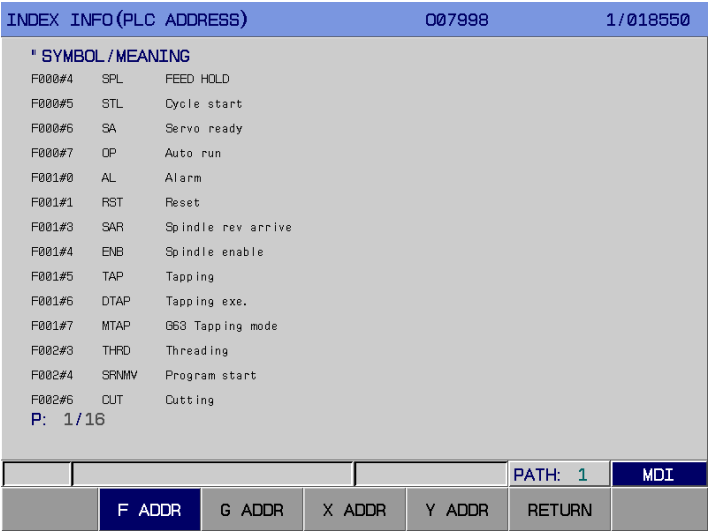

Fig. 3-9-8
7. PLC.AD page In <HELP> page, press soft key **【PLC.AD】** to enter this page. There are four subpages, including **【F. ADDR】**, **【G. ADDR】**, **【X. ADDR】** and **【Y. ADDR】**, as is shown in figures 3-9-8~3-9-11: